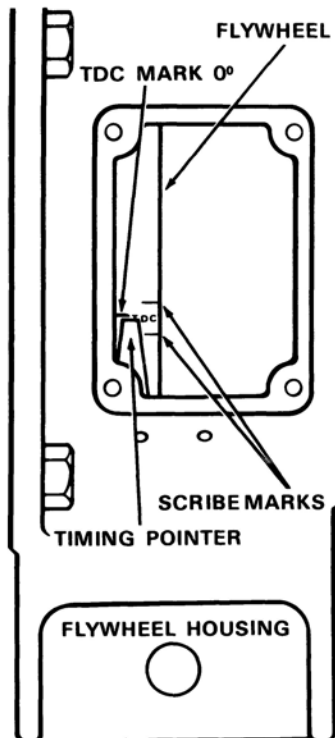
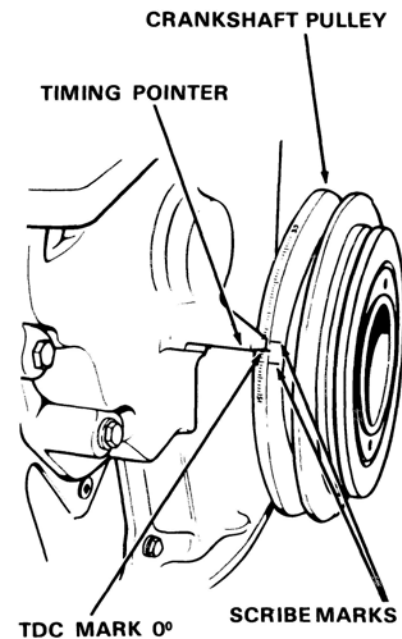

Figure 26
Figure 27
On engines equipped with the timing marks on the flywheel, it is required that the flywheel be set on the TDC mark with the pointer in the flywheel housing, Figure 26. Then scribe a mark on the front crankshaft pulley in line with front timing pointer. This will be an aid when the flywheel has to be removed and installed. When the flywheel is installed, line up the TDC marks with the pointers. Then proceed as follows to check the timing pointer in the flywheel housing.
7. Scribe a mark on the crankshaft pulley Figure 27, or flywheel Figure 26, in line with the timing pointer.
10. The timing pointer, Figure 26, used with the timing marks on the flywheel should then be adjusted so it lines up with the TDC mark.